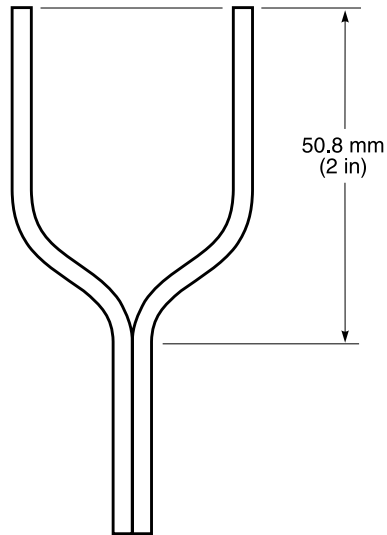

Figure 7. Preparing the Wire Pair
- 8 Slit the ends of the leads of each drop-wire pair and bend as shown in Figure 7.